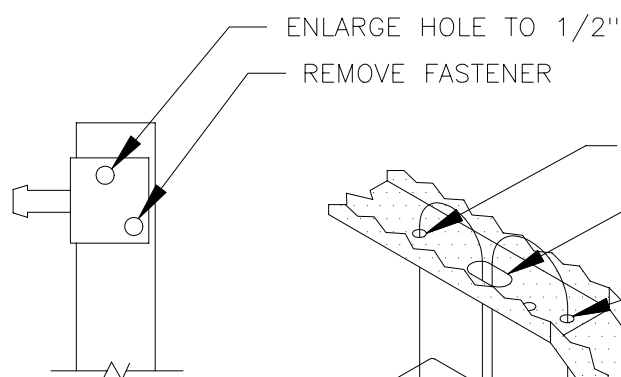

FIGURE 2
2. ENLARGE EXHAUST HANGER HOLE AS SHOWN IN FIGURE 2.